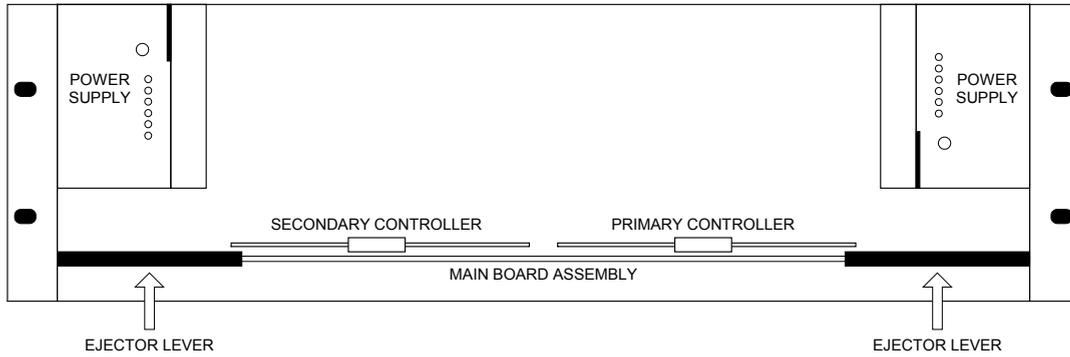

FIGURE 2-7. Chassis Assembly with Front Cover Removed
3. Pull the Main Board Assembly slightly out of the router using the board ejectors located on the left and right hand sides of the board. See Figure 2-7. (The main board assembly does not have to be completely removed from the chassis to change configuration.)